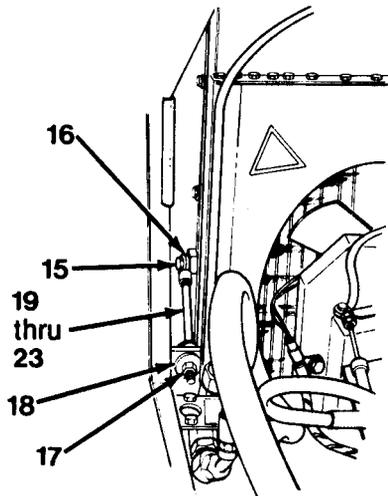
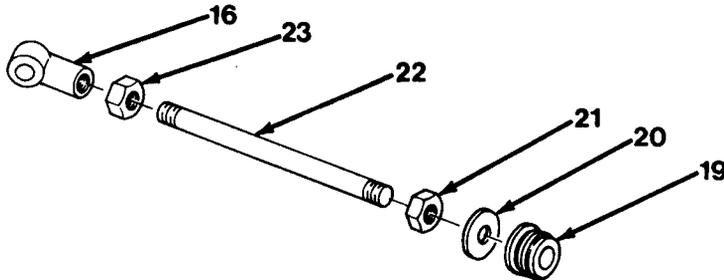

Figure 9-7
Figure 9-8
9. Remove two capscrews (15) that attach rod ends (16, Figure 9-7) on each side of radiator.
10. Remove two nuts (17), spacers (18) and rod assembly (19 thru 23).
11. Remove two mounts (19), retainers (20), nuts (21), studs (22) and nuts (23) from rod ends (16, Figure 9-8).